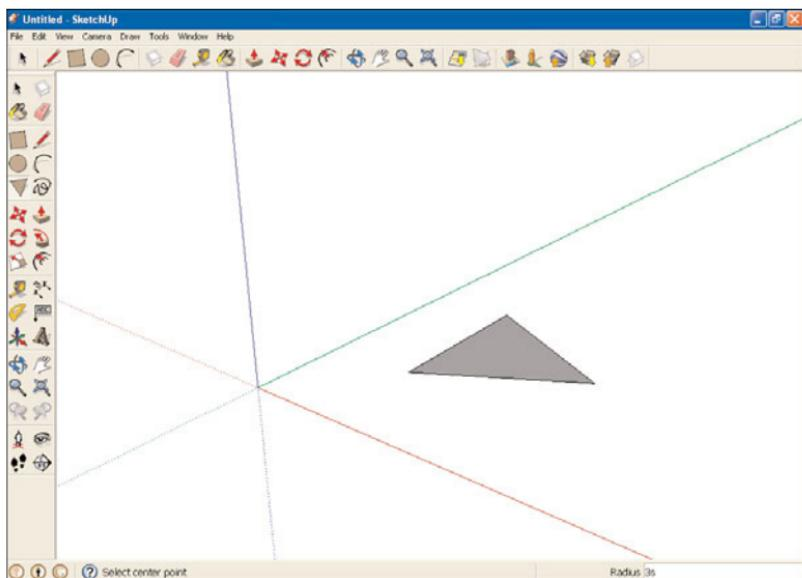

FIGURE 3.7 Drawing a polygon with three sides.
7. Click the mouse. SketchUp draws the polygon or circle and colors it in as a new surface. You can see an example in Figure 3.7.